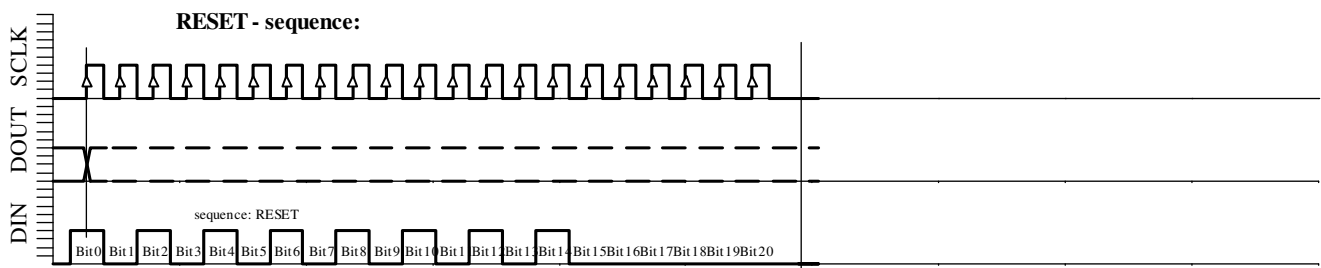

Fig. 6e: RESET sequence (21-Bit).
- RESET sequence (Figure 6e)
The RESET sequence is special as its unique pattern is recognised by the module in any state. By consequence it can be used to restart if synchronisation between the microcontroller and the MS5535A (RoHS) has been lost. This sequence is 21-Bit long. The DOUT signal might change during that sequence (see Fig. 6e). **It is recommended to send the RESET sequence before each CONVERSION sequence to avoid hanging up the protocol permanently in case of electrical interference.**